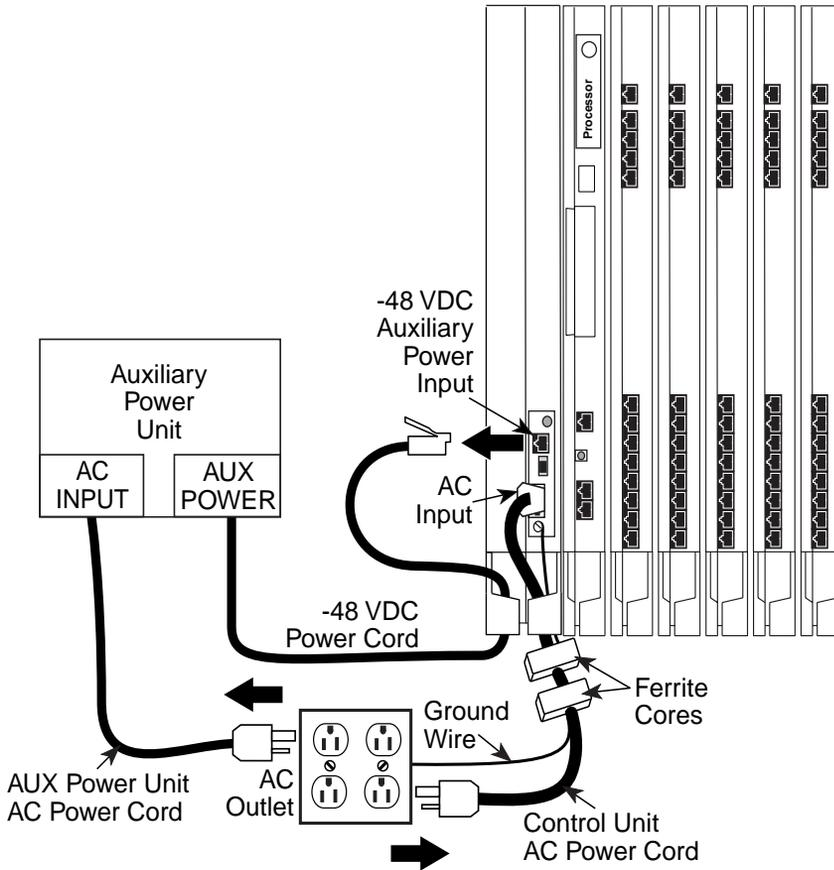

Figure 9-2. Powering Down the System
- ▶ 2. Power down the system as described earlier in this chapter. See Figure 9-2.